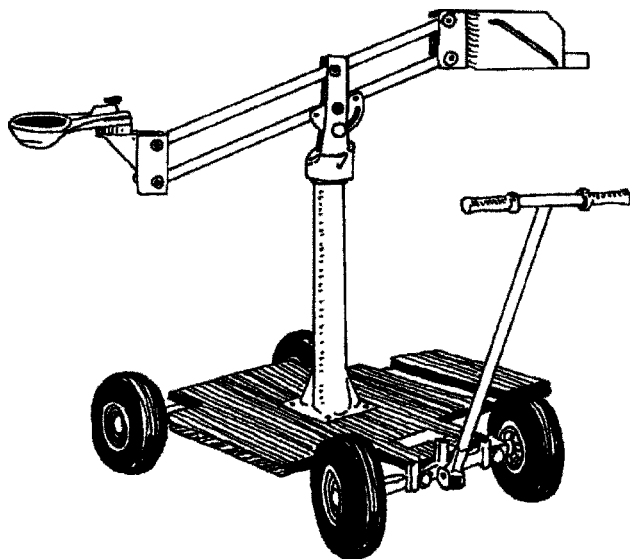

Figure 10.8 Liberty Range Jib.
- **Liberty Range Jib** (Figure 10.8)